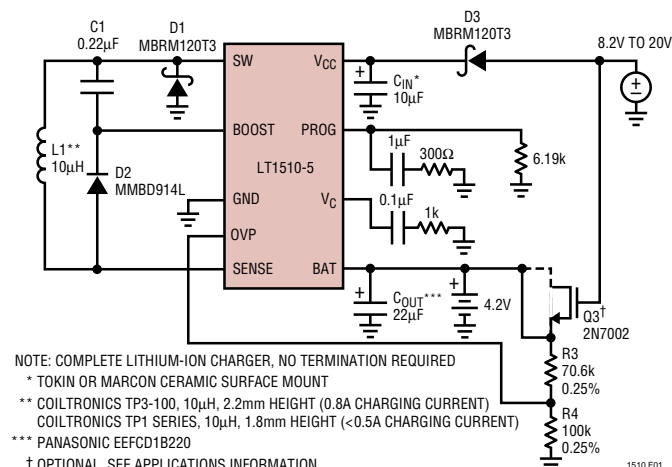

Figure 1. 500kHz Smallest Li-Ion Cell Phone Charger (0.8A)
* NiCd and NiMH batteries require charge termination circuitry (not shown in Figure 1).